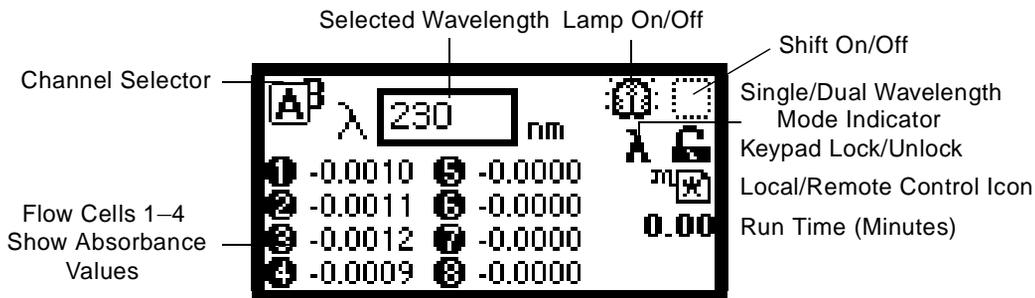

Figure 3-2 Home Screen Set to Monitor Flow Cells 1–8 at 230 nm
When it finishes initializing, the detector displays the Absorbance Home screen (Figure 3-2). See Section 3.2.3 for details about this and subsequent screens.
If one or more startup diagnostics fails, the detector beeps and displays an error message. For serious errors, it also displays “Error” in the Home screen’s Absorbance data fields (Figure 3-2).
The 2488 Detector incorporates a graphic display and keypad operator interface. After startup diagnostics run successfully, the detector displays the Absorbance Home screen (Figure 3-2).
The Home screen displays absorbance values, in absorbance units (AUs), at one or two wavelengths for flow cells 1–4 (Figure 3-3), 5–8 (Figure 3-4), or 1–8 (Figure 3-2), depending on how you configure the detector (see Section 5.2.2).
1. Press **HOME**. The Home screen appears (Figure 3-2).